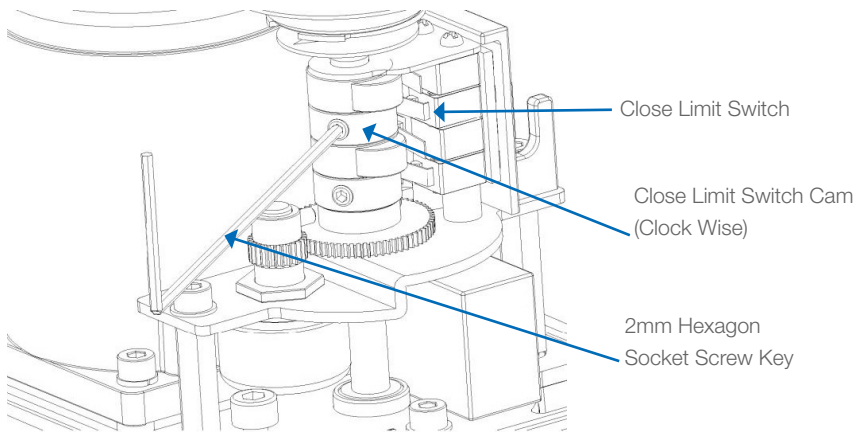

FIGURE 1: CLOSE CAM SETTING
- Rotate the CLOSE cam towards limit switch lever until the switch 'clicks' (see Figure 1 below)